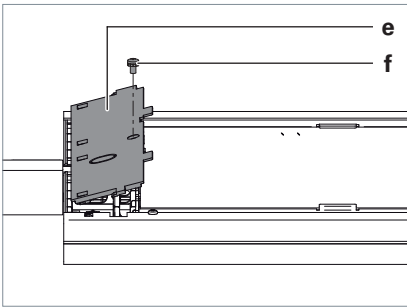

Fig. 15: Mounting the cover.
- ▶ Insert a cover **e** with the hooks on the bottom side of the cover into the eyelets on the light head and press the cover firmly, see Fig. 15.